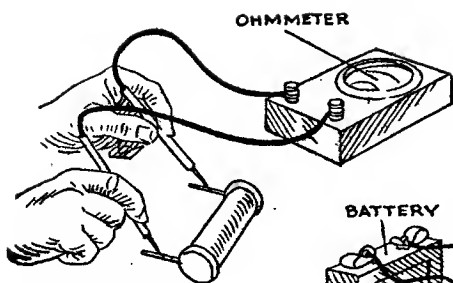

FIG. 40
*Testing For Open Circuits:* Tracing an open circuit sometimes is referred to as continuity testing. For this, some ohmmeter arrangement, such as shown in Fig. 40, presents the best check since the resistance, as well as the continuity of the wire, can be tested.